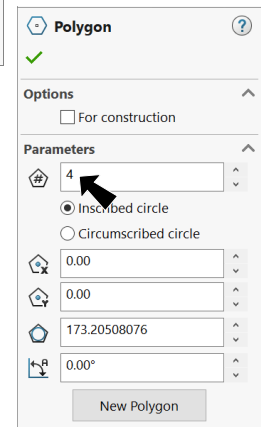

Fig. 68
Step 3. In Polygon Property Manager set under Parameters, **Fig. 68**